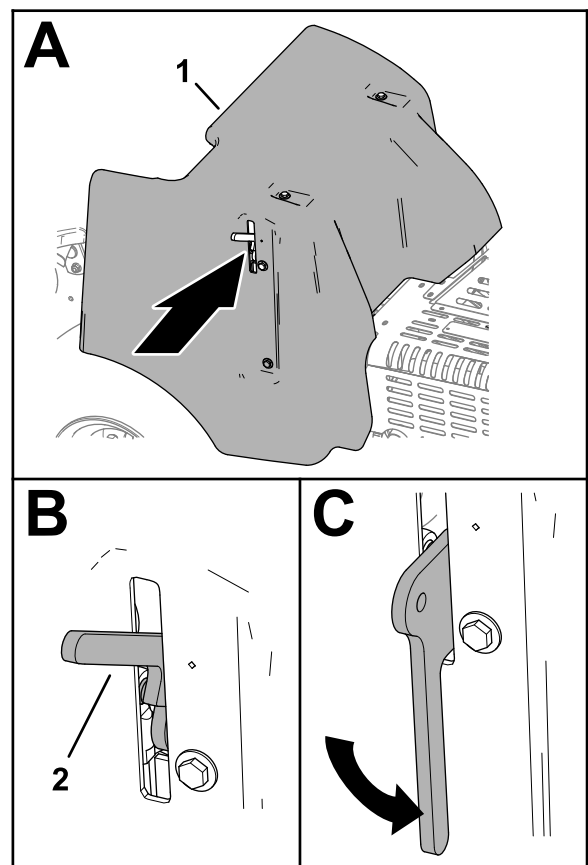

Figure 146
3. Fully lower the latch handle to secure the cover (Figure 146).